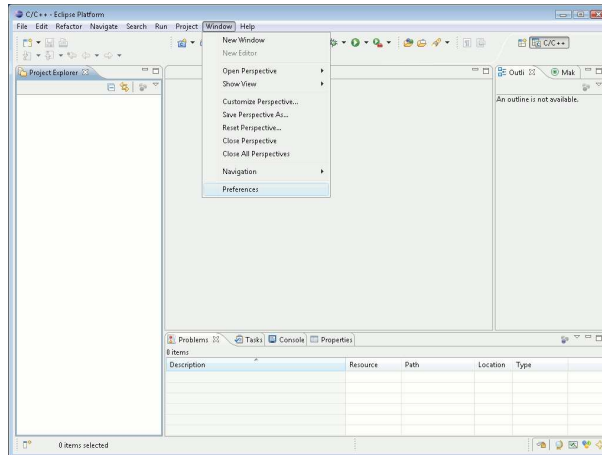
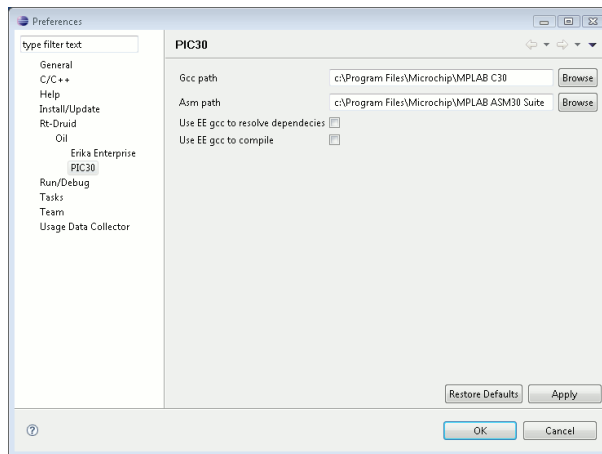

Figure 4.3: Go to the “Preference” menu.
Figure 4.4: Select paths for compiler and assembler.
4. Before being able to correctly build your application, you should set the path to the Microchip C30 compiler and the MPLAB ASM30 assembler programs. For doing so, please go to the “Preference” menu, as shown in Figure 4.3, and find the “RT-Druid/Oil/PIC30 Configurator” form as depicted in Figure 4.4. The first
Warning: The install directories specified in the two textboxes of Figure 4.4 does *not* include the `bin` directory!
Warning: If you are using a Student Edition of the Microchip C30 compiler with an **expired license**, please check the “Use EE gcc to resolve dependencies” checkbox in Figure 4.4.